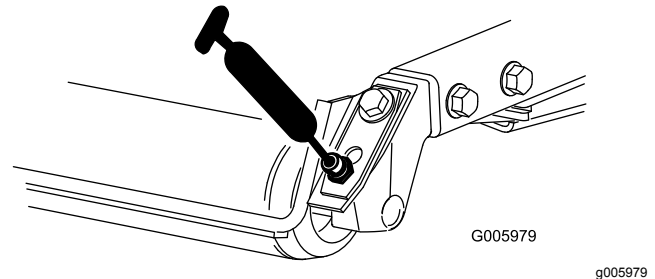

Figure 31
- Rear roller bearings (2 per cutting unit) (Figure 31)